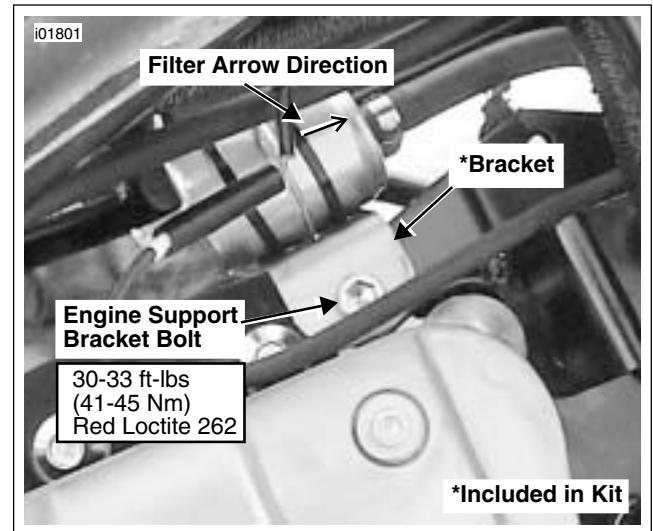

Figure 4. Clamp Mounting
- See Figure 4. Remove the rear cylinder engine support bracket bolt and washer. Discard washer.
- See Figure 4. Insert bolt through fuel filter bracket as shown. Apply LOCTITE THREADLOCKER 262 (red) to the three bottom threads of the bolt.
- See Figure 4. Install fuel filter bracket to cylinder head with bolt. Tighten bolt to 30-33 ft-lbs (41-45 Nm).